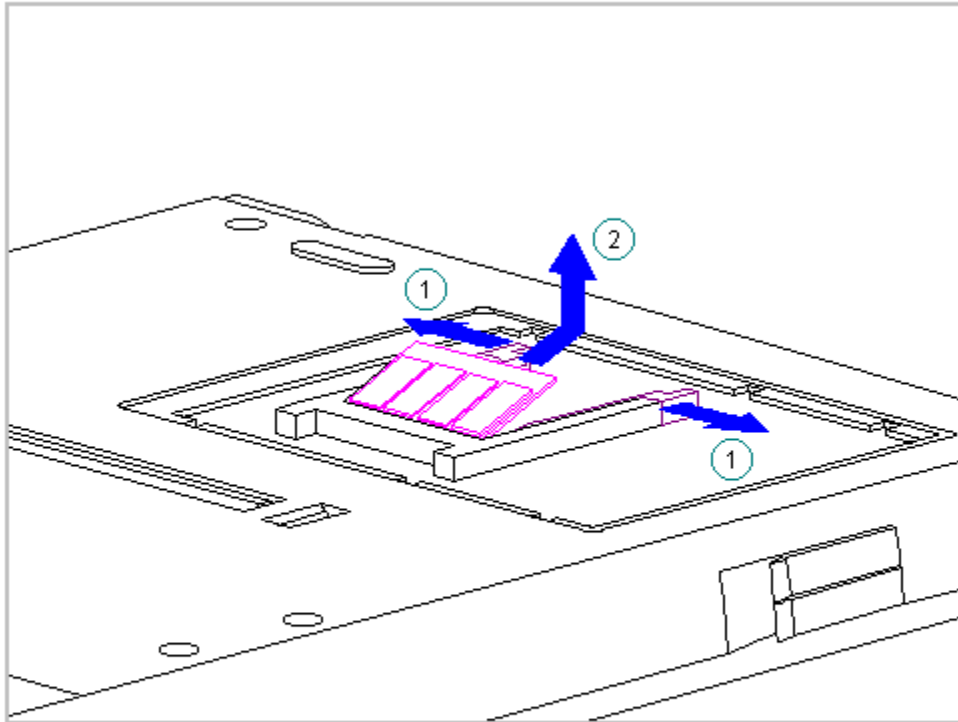

Figure 5-12. Disconnecting the Memory Expansion Board
2. Press in on one of the small tabs holding the board in place [1], let the board pop up, then pull it slightly up and out [2] (Figure 5-12).